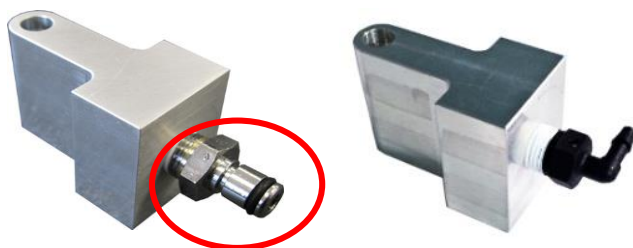

Figure 16: Exhaust Port Modification
4. Modify exhaust port by removing quick connect fitting and installing 90 degree fitting as shown in Figure 16.